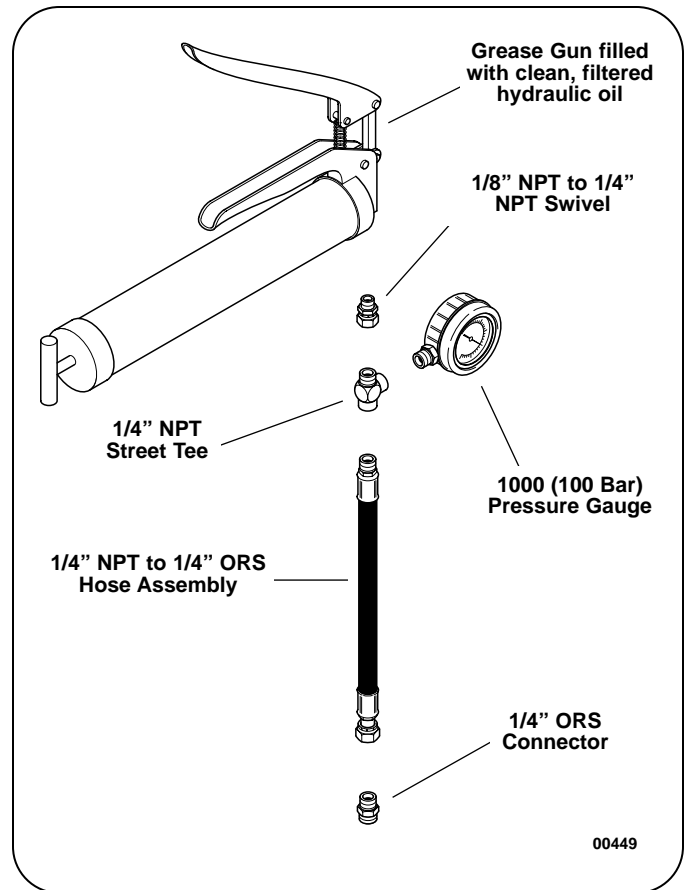

Figure 6: Typical Grease Gun Modification
8. With the wheels blocked, use a modified grease gun, See Figure 6, or other pressure source to pressurize the parking brake lines to at least 800 psi (5,51 Mpa). This will release the parking brake at both axles.